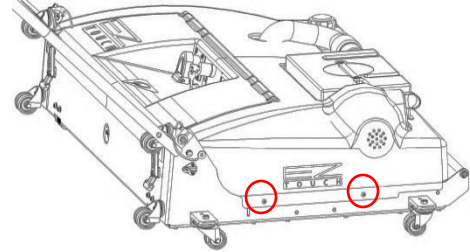

Figure 4- 13
1. Unlatch the oil compartment door latches, disconnect the vacuum hose and remove the waste tank, remove the cap from the cleaner tank, remove the two screws from each side of the hood (see Figure 4- 13), and lift the hood from the frame. Set the screws aside.
2. Locate the drive chain along the left side of the drive shaft and the oil transfer roller chain at the left rear of the machine, as shown in Figure 4- 14.